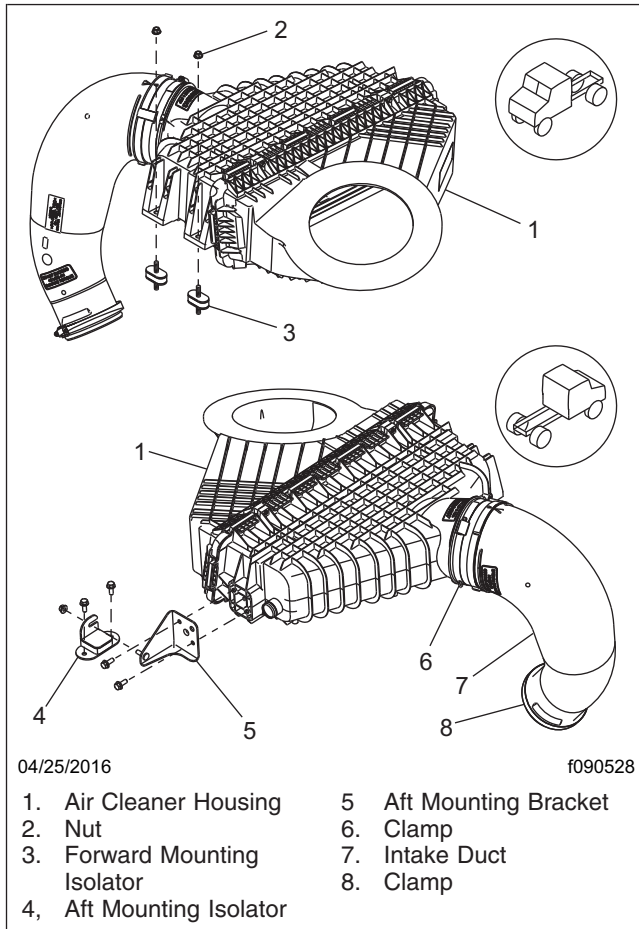
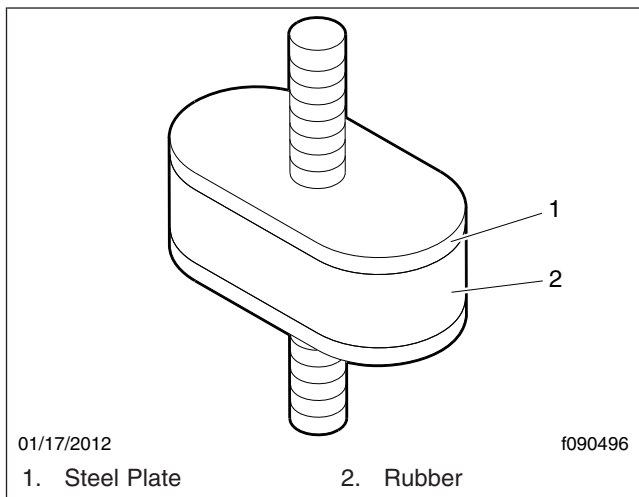

Fig. 3, Air Cleaner Assembly
Fig. 4, Mounting Isolator
4. Inspect the forward and rear mounting isolators for damage. See Fig. 3. Ensure the bonds between the rubber and the steel plates are completely intact. See Fig. 4.